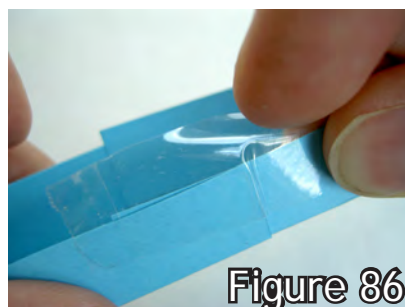

Figure 86
2. Tape the walls together by placing tape on the outside and folding inward. (fig. 86)